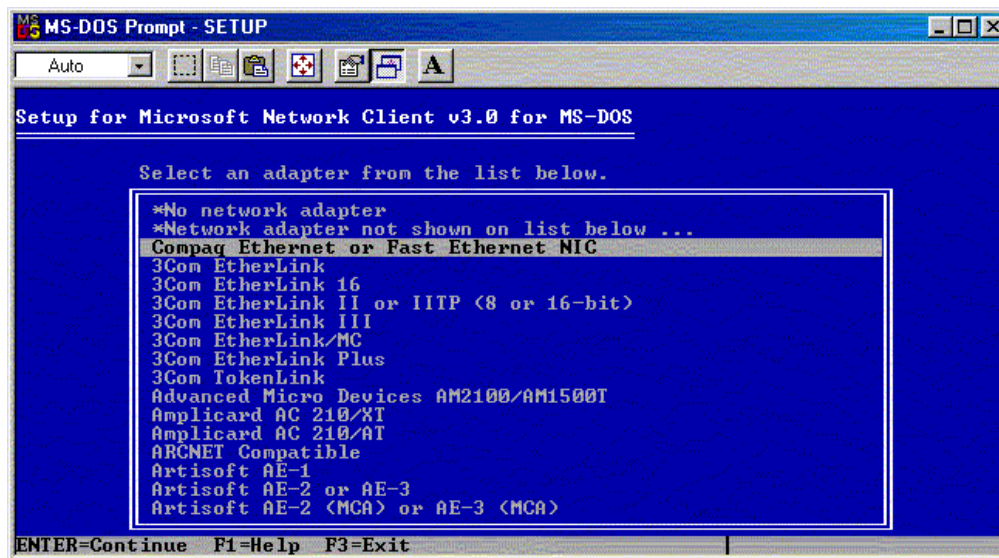

Figure A-8: Network adapter selection
- Accept the default installation directory and press the **Enter** key to continue. The Network Client 3.0 determines the drivers that are available for installation and displays a selection screen similar to Figure A-8.